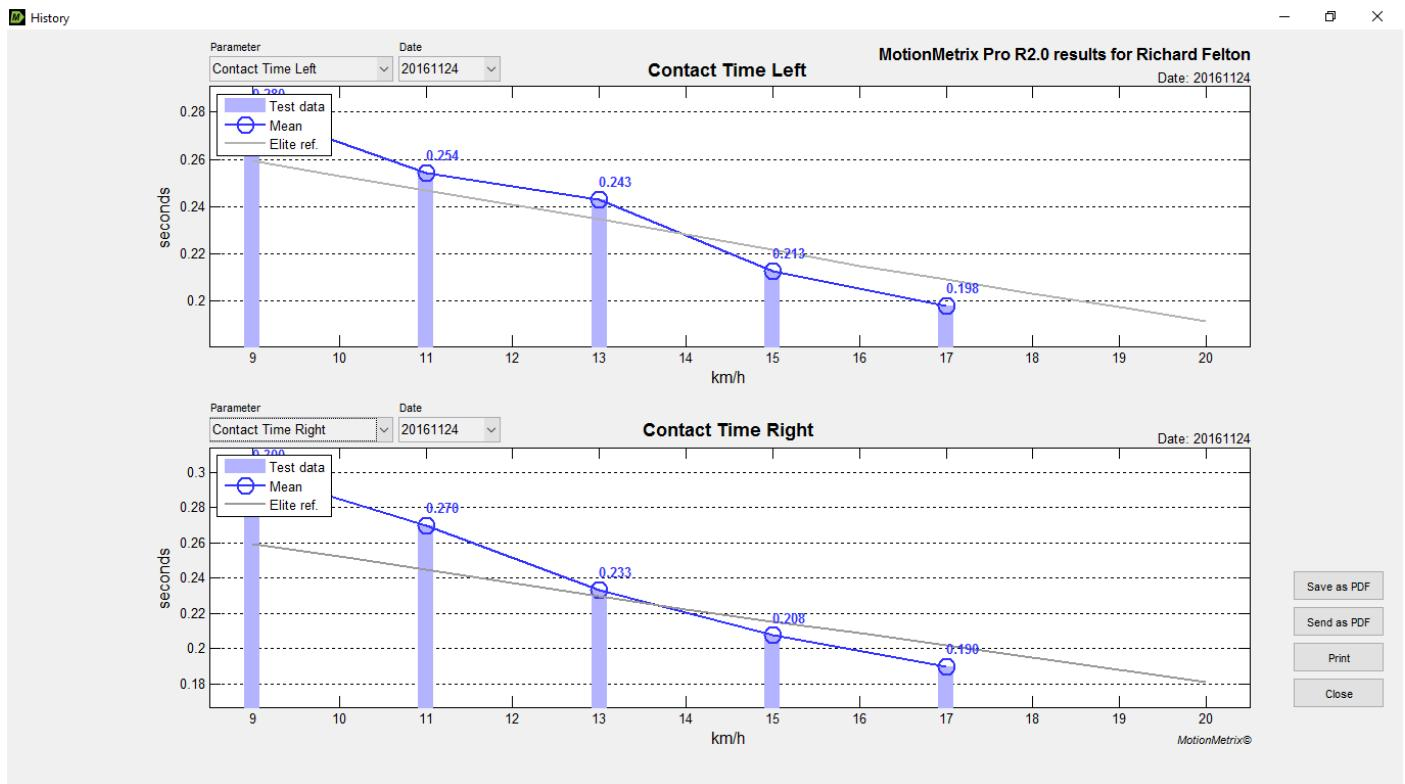

Fig7. Ground contact time changes as the speed changes. Left side spends longer on the ground at higher speeds (15 & 17kmph)
- Ground contact time is longer on the right side at a slower speed but once the runner hits race pace this then switches to the left side. Further adding to the runners overload on the left side at race pace (**See Figure 7**)